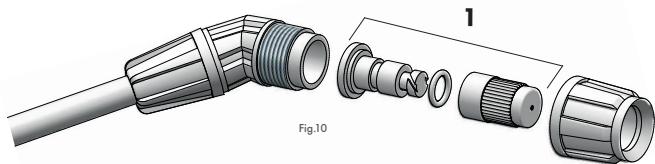

Fig.10
Point the lance tip (fig. 10) at the location to be sprayed.
With the adjustable nozzle (fig. 10/pos. 1) you can regulate the output stream. By tightening or loosening the nozzle tip you can achieve various spraying degrees - from mist to continuous stream.
The filter (fig. 13/pos. 1) located on the lance handle (fig. 13/pos. 2) and the adjustable nozzle (fig. 10/pos. 1) located at the lance tip (fig. 1/pos. 1) must be cleaned periodically and before any prolonged downtime.